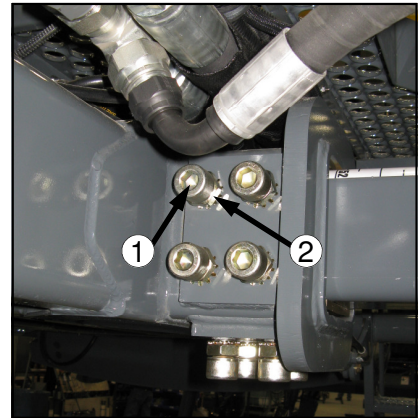

FIG 6.19-1
HYDRAULIC TREAD ADJUST UNITS– With the engine turned off, visually inspect the tread bearing bolts on both the bottom and side tread adjust bearing plates (fig. 6.19-1) every 50 hours. Torque check them every 100 hours.
1. Loosen the jam nut (fig. 6.19-1, item 2) on each tread adjust bearing bolt.